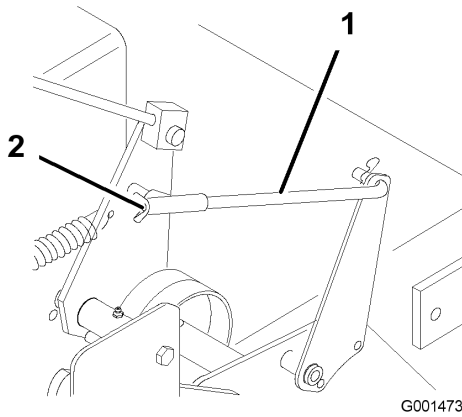

Figure 31
5. To adjust the brake, rotate the wing nuts on the brake rods (Figure 31). Turn the wing nuts clockwise to tighten the brake and counterclockwise to loosen the brake.